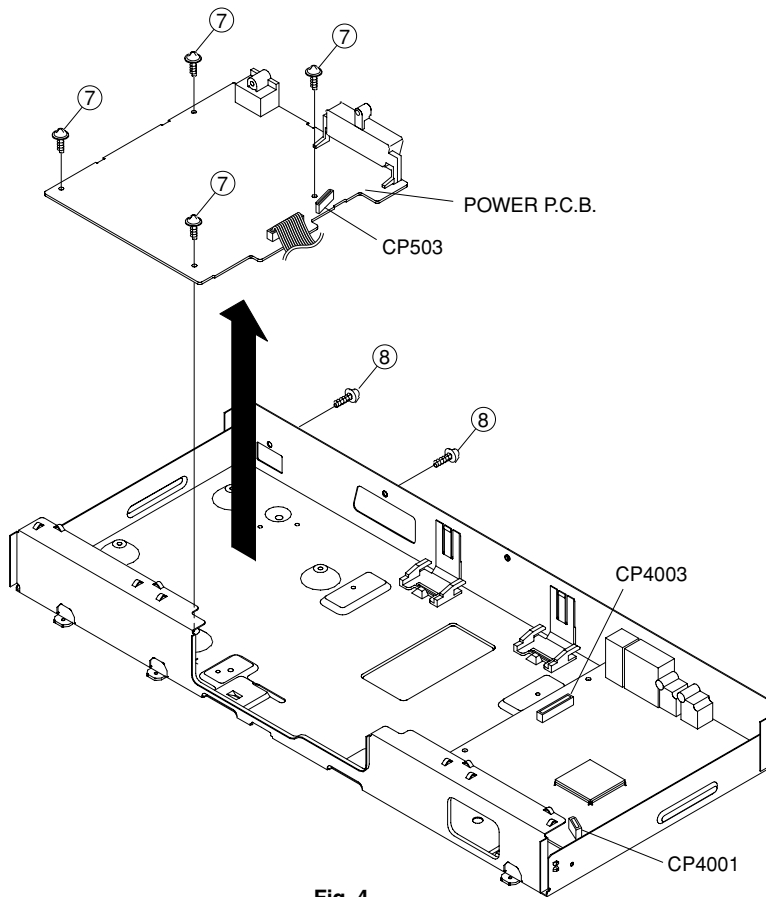

Fig. 4
5. Removal of POWER P.C.B.. (Fig. 4)
- a. Remove 4 screws (7) and 2 screws (8).